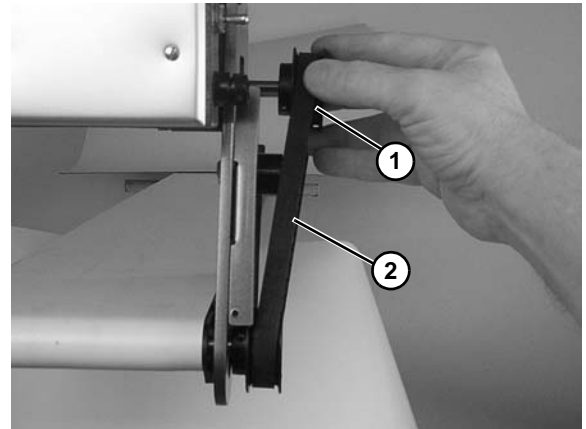

Figure 21
If drive pulley (Figure 21, item 1) is replaced, wrap timing belt (Figure 21, item 2) around drive pulley and complete step 3.